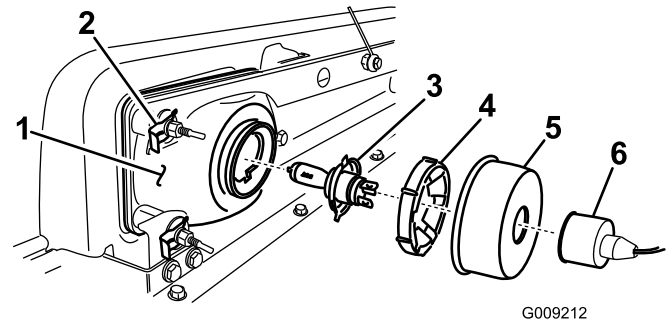

Figure 31
2. Remove the protective rubber boot (Figure 31).
2. Remove the headlight assembly by moving it forward through the opening in the front bumper (Figure 31).
3. Install the new headlight through the opening in the bumper (Figure 31).